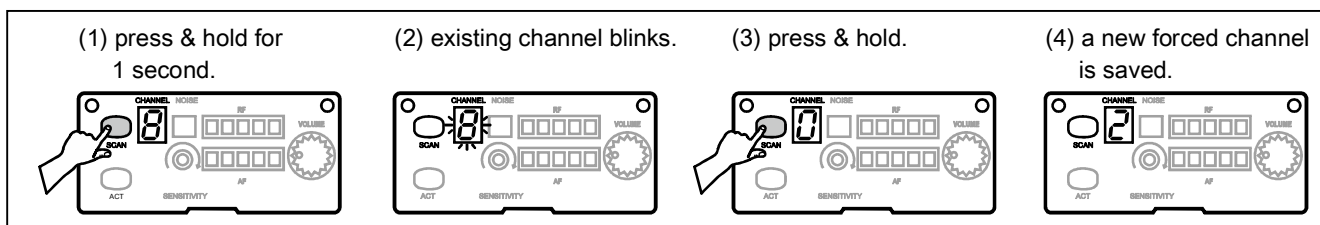

Fig. 7
- (B) Manually Search for a Receiver Channel: Press and hold SCAN button **A6** to perform a manual channel search. Existing channel **A7** blinks to denote it is ready to accept parameter changes. During blinking, press and hold Channel button to force the channel to go forward to the next channel in order. Release Channel button until a desired channel is located. This new channel is now saved. If Channel button is not pressed within six blinks, it stops blinking and reverts back to the existing channel, Fig. 7.